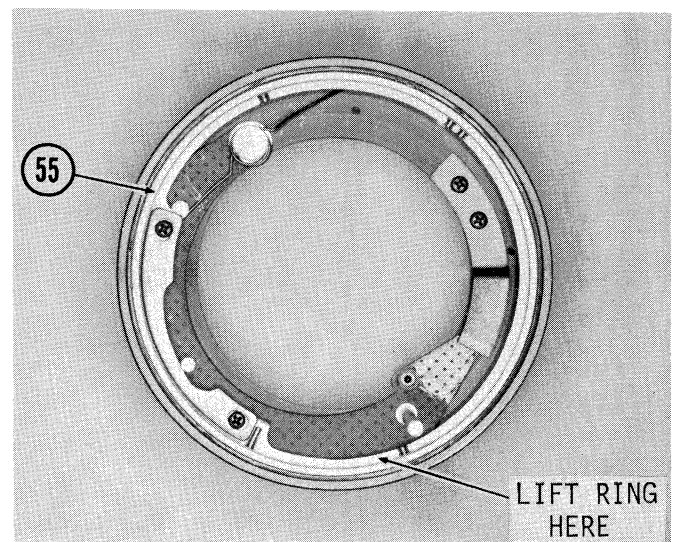

Fig. 49
- 5.5.1.7 Lift Diaphragm Cam Ring (55) at point shown in Fig. 49 and remove.